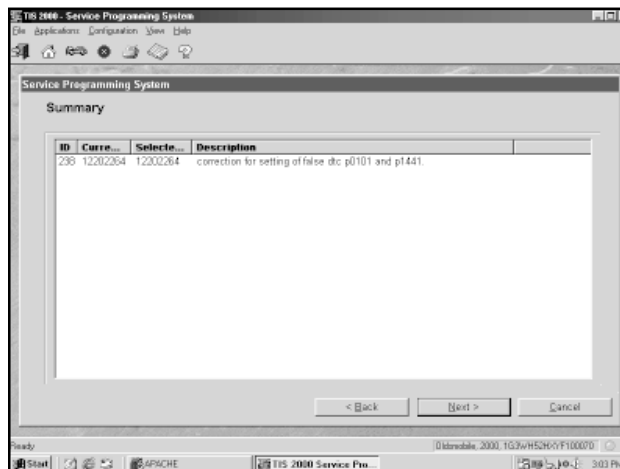

Figure I-25, Summary screen
9. The Summary screen prompt appears (Figure I-25).